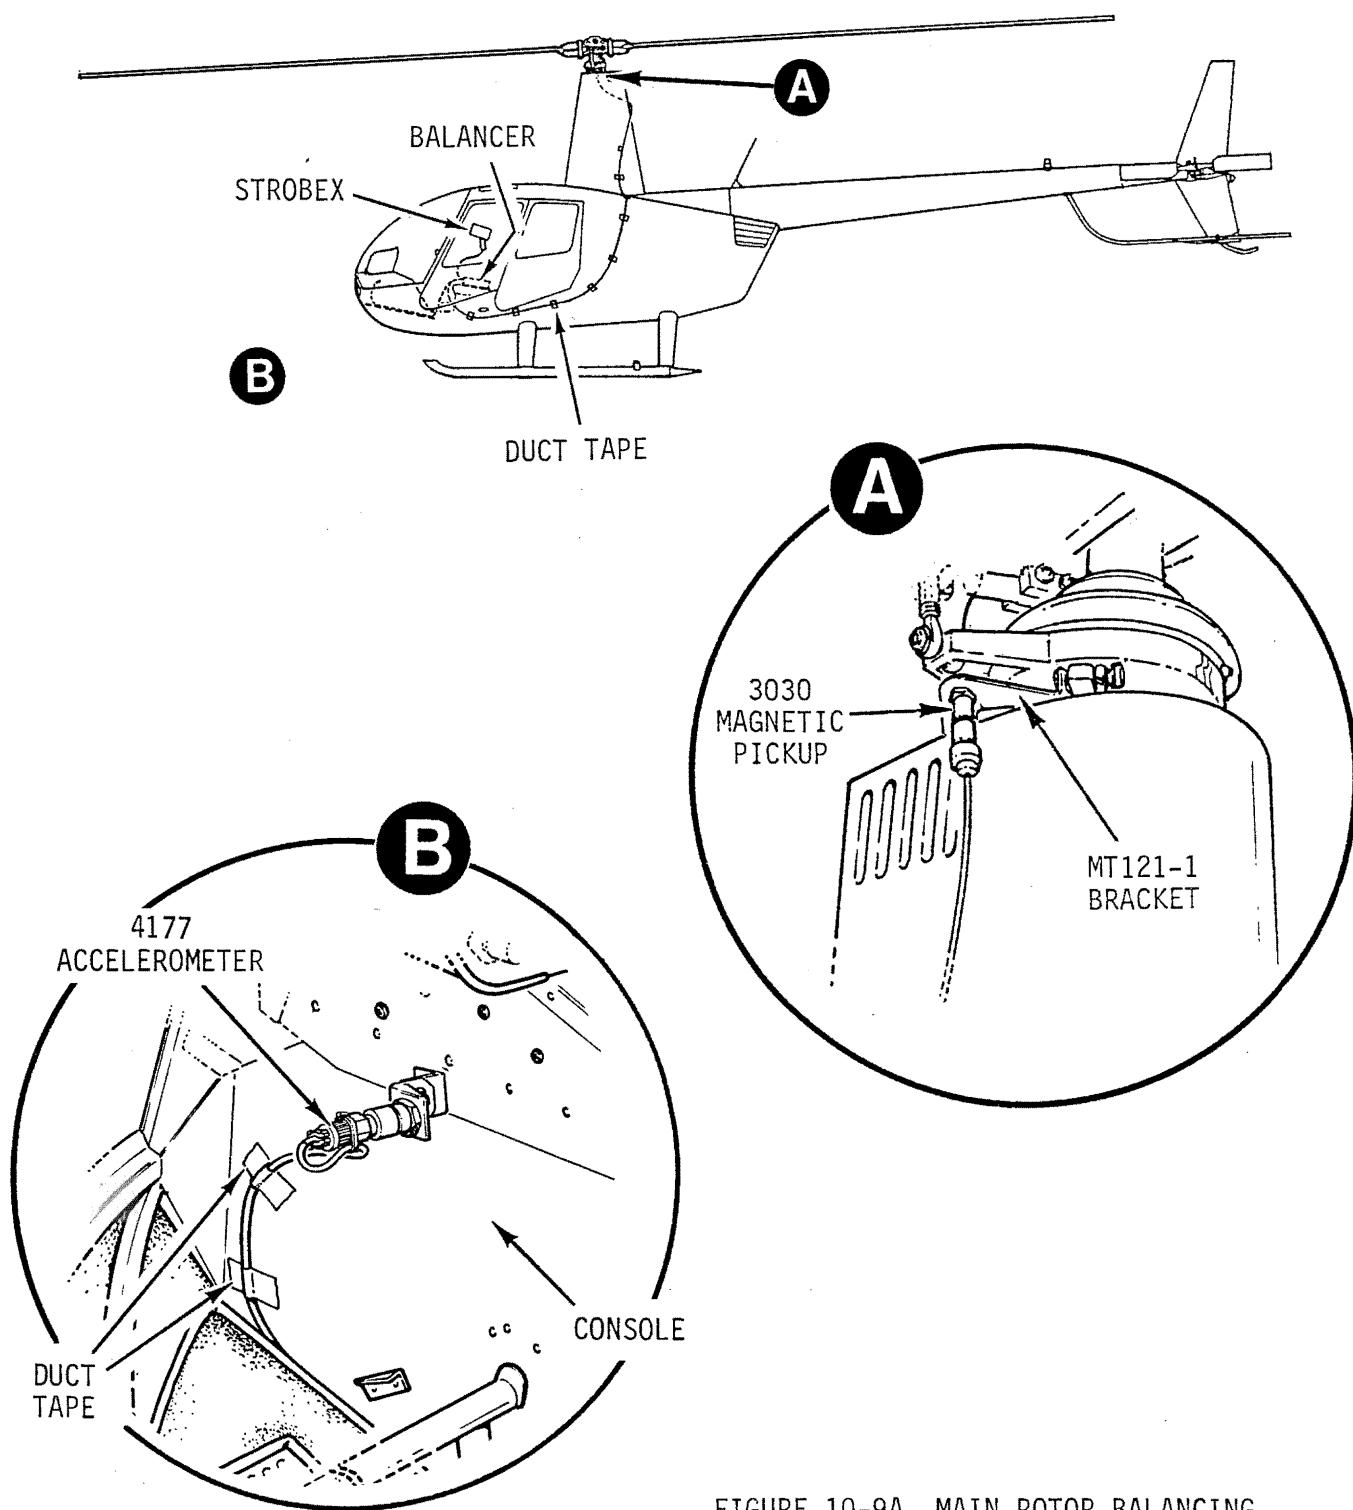

FIGURE 10-9A MAIN ROTOR BALANCING EQUIPMENT INSTALLATION
10.220 Equipment Installation**10.221 Main Rotor Equipment Installation (see Figure 10-9A)**